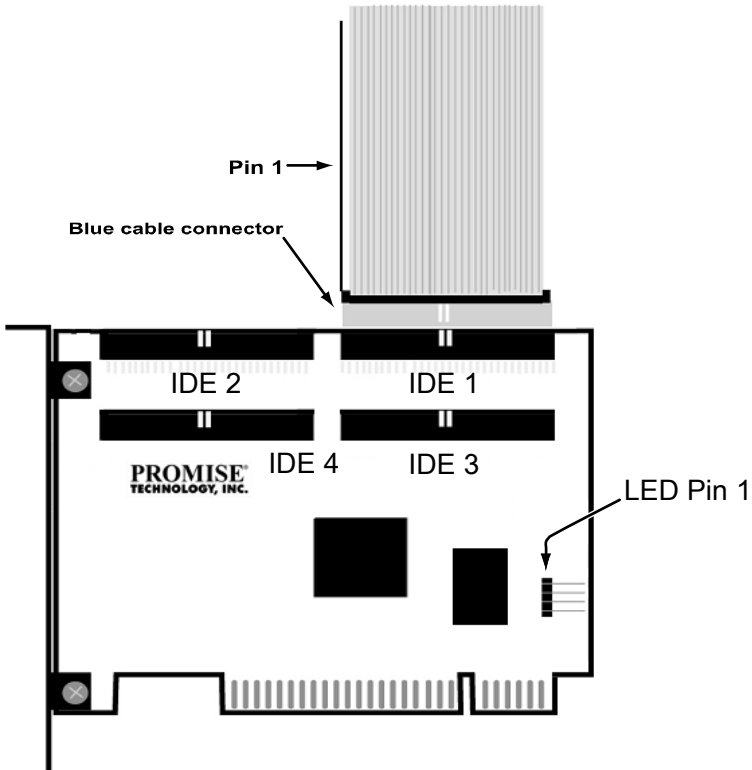

Figure 2. TX4000 card
4. Attach your system case's 2- or 4-pin LED cable to the LED connector on the FastTrak TX4000 Controller card (see Figures 2 and 3, below). Make sure that pin 1 on the connector is aligned with pin 1 of the cable.
5. Attach a blue cable connector to each of the IDE connectors on the FastTrak TX4000 controller card. The black colored edge of the cable(s) indicates Pin 1 (see Figure 2).